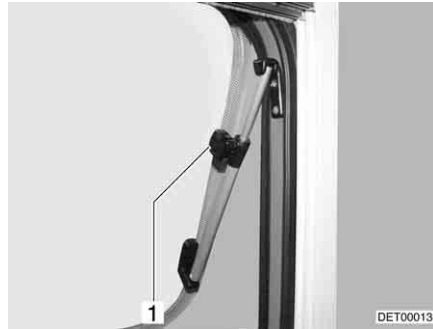

Fig. 98 Skylight with rotary hinges, open
- Open the skylight until the required position has been reached and use knurled knob (Fig. 98,1) to secure in position.
- Turn knurled knob (Fig. 98,1) until the latch is released.